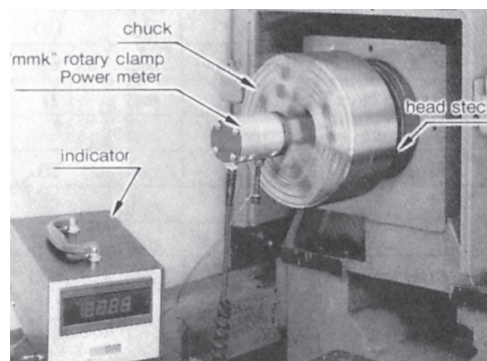

FIG. 2 THE MEASURING WAY OF CLAMPING POWER
- (1) The top jaw is "mmk" standard soft jaw.
- (2) The supplied grease is "mmk" recommended grease (refer to pg. 25, table 10).
- (3) The top jaw mounting bolts should be torqued (refer to pg. 17, table 8).
- (4) The draw bar pull is at the maximum allowable.
- (5) The hydraulic unit must supply 20 liters/min. to hydraulic actuator for maximum draw bar pull.
- (6) The correct way to measure in grip force is shown in FIG. 2.